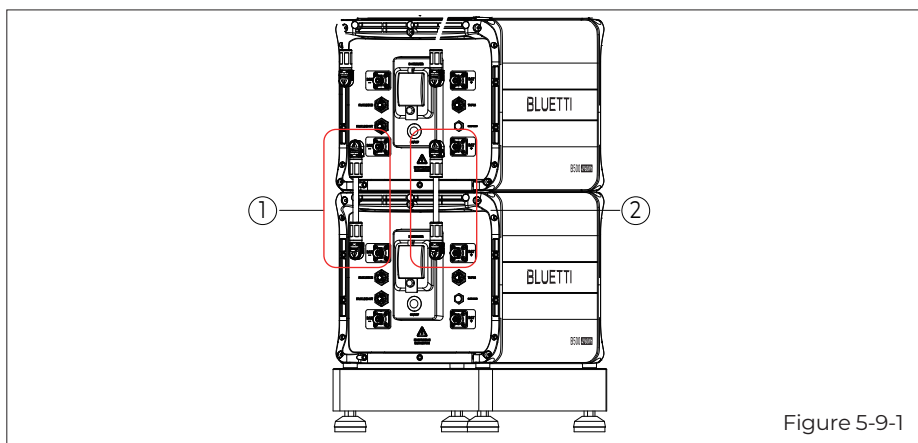

Figure 5-9-1
Step 1: Connect two B500 battery packs via the battery expansion cables - black cable for negative terminals, red for positive terminals. See “①” “②” of Figure 5-9-1 and 5-9-2.